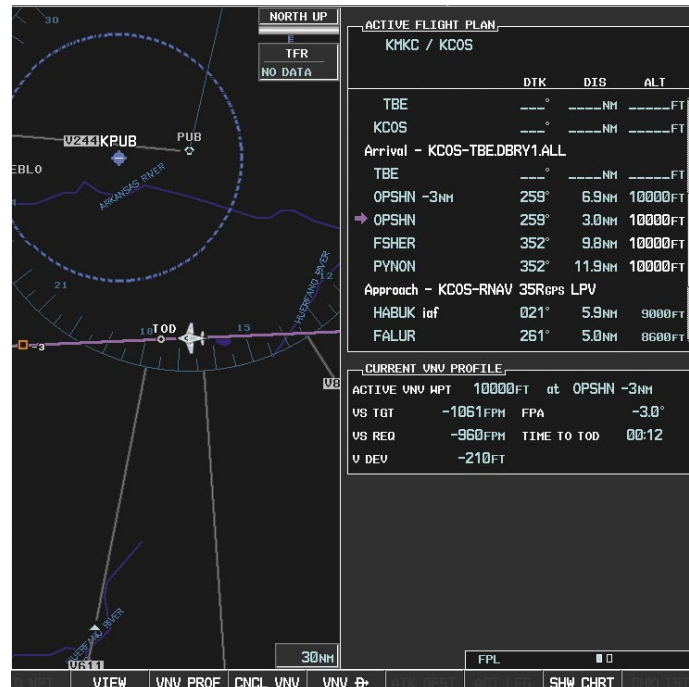
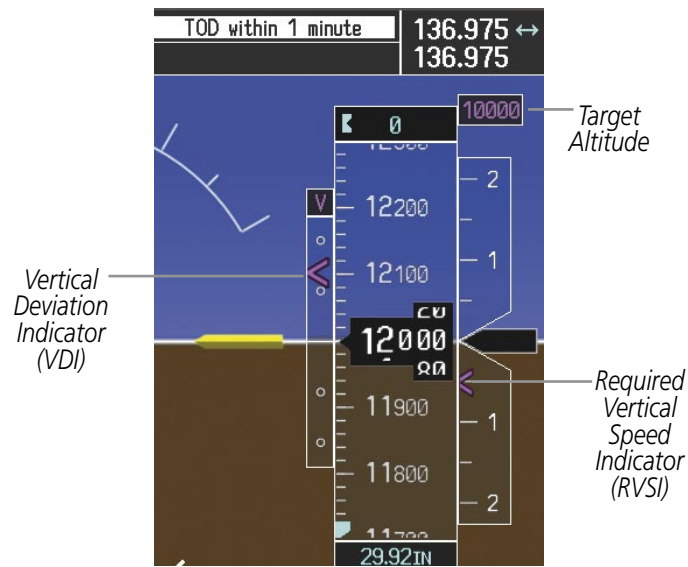

Figure 5-118 Approaching Top of Descent (TOD)
Figure 5-119 VDI & RVSI Upon Reaching Top of Descent (TOD)
- As seen in Figure 5-118, the aircraft is approaching TOD. Note the target vertical speed required to reach the selected altitude. The Vertical Deviation Indicator (VDI) and the Required Vertical Speed Indicator (RVSI) are now displayed on the PFD as shown in Figure 5-119.